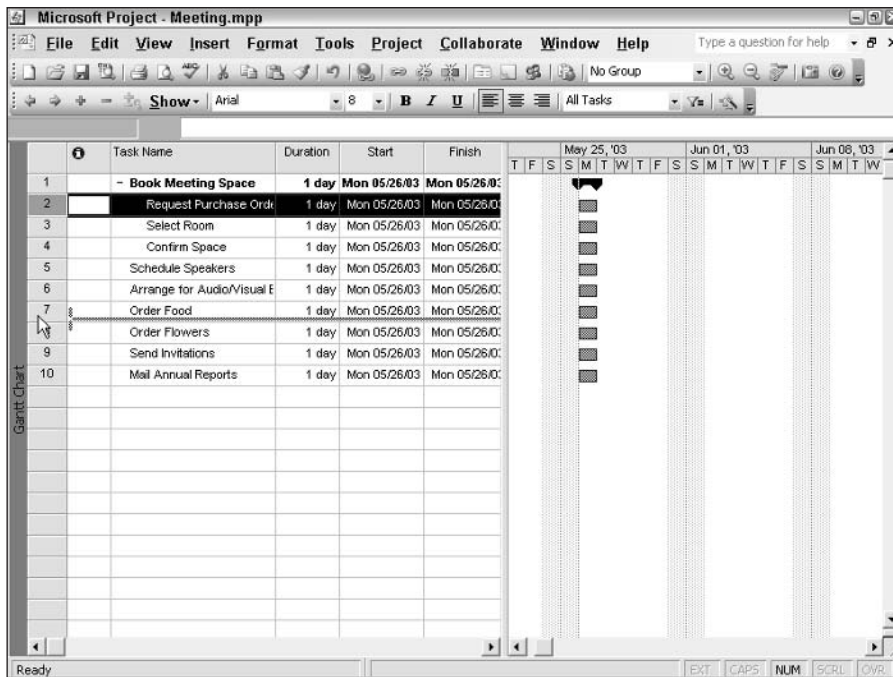

Figure 3-16: Project indicates the proposed position of the task with a horizontal gray line.
7. Press and hold down the left mouse button while you drag the Request Purchase Order task below the Order Food task. A horizontal gray line appears on-screen, indicating the new proposed position as you drag (see Figure 3-16).